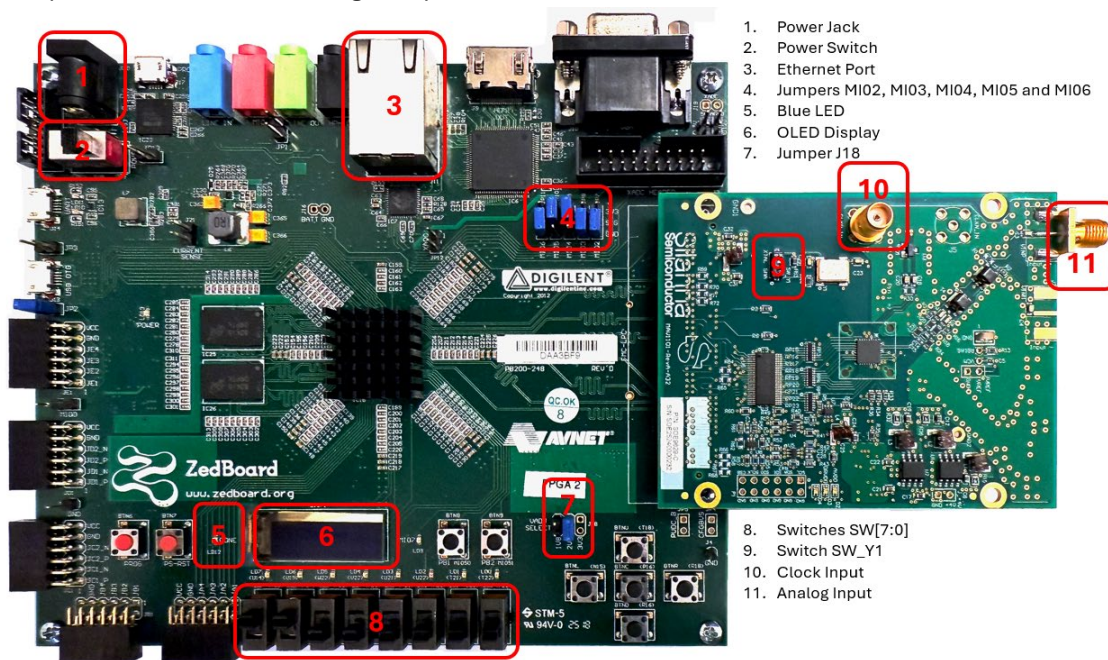

Figure 2: Top view of Silanna's Plural SDEVK system.
Figure 2 shows the ZedBoard with the Silanna ADC board plugged into the mezzanine connector. It also identifies parts of the boards that might require user interaction.
- Remove the SD card from the Silanna Data Converter EVK box and insert it into the SD card slot on the back of the ZedBoard, as shown in Figure 2.